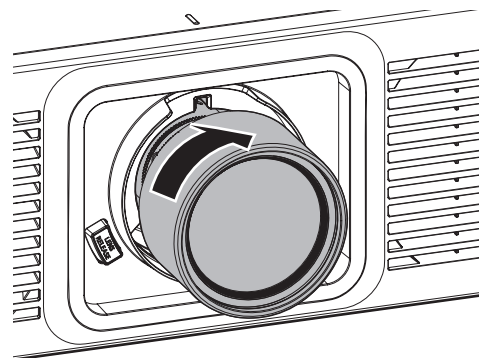

Fig.3
3) Turn the projection lens clockwise to the end. (Fig. 3)